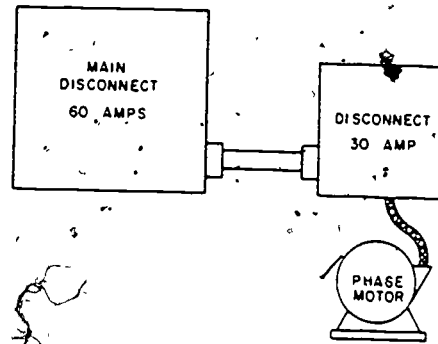

Figure 8. Connecting a Three-Phase Motor to Power
1. Obtain a length of  $\frac{3}{4}$ " flexible conduit to reach from the 30-ampere disconnect to the motor terminal box, as shown in figure 8.